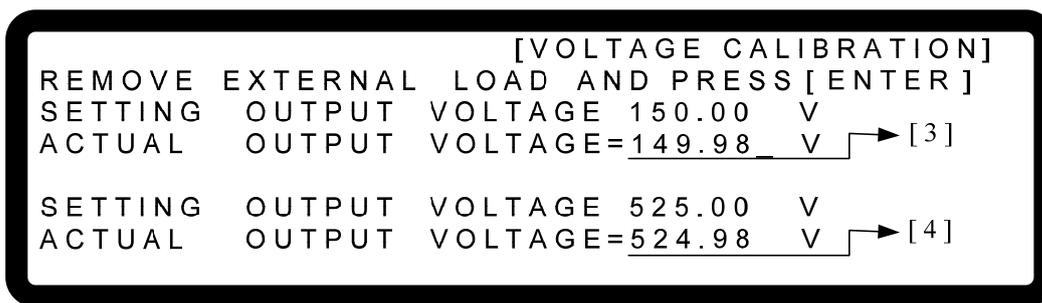

Figure 3-94
7. Press " " to do the high voltage range calibration, the instrument will output the voltage to 150.00V first and the cursor is stop at position [3] as Figure 3-94 shows. Enter the voltage measured by DVM to position [3] and press " " to confirm.
8. Press " " again to do the high voltage range calibration for its second point, the instrument will output the voltage to 525.00V and the cursor is stopped at position [4] as Figure 3-94 shows. Enter the voltage measured by DVM to position [4] and press " " to confirm.